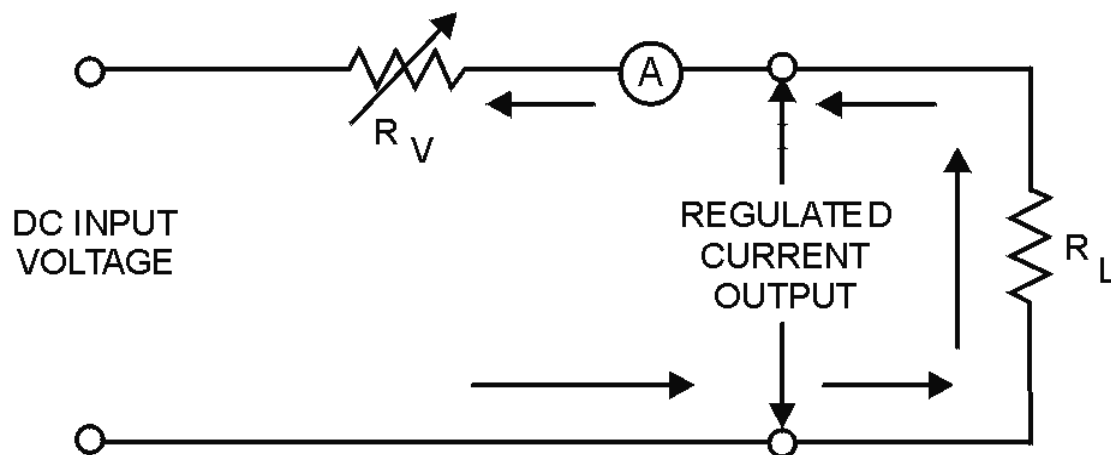

Figure 4-40.—Current regulator (simplified).
You should now know how voltage regulators work to provide constant output voltages. In some circuits it may be necessary to regulate the current output. The circuitry which provides a constant current output is called a constant current regulator or just CURRENT REGULATOR. The schematic shown in figure 4-40 is a simplified schematic for a current regulator. The variable resistor shown on the schematic is used to illustrate the concept of current regulation. You should know from your study of voltage regulators that a variable resistor does not respond quickly enough to compensate for the changes. Notice that an ammeter has been included in this circuit to indicate that the circuit shown is that of a current regulator. When the circuit functions properly, the current reading of the ammeter remains constant. In this case the variable resistor ( $R_V$ ) compensates for changes in the load or dc input voltage. Adequate current regulation results in the loss of voltage regulation. Studying the schematic shown, you should recall that any increase in load resistance causes a drop in current. To maintain a constant current flow, the resistance of  $R_V$  must be reduced whenever the load resistance increases. This causes the total resistance to remain constant. An increase in the input voltage must be compensated for by an increase in the resistance of  $R_V$ , thereby maintaining a constant current flow. The operation of a current regulator is similar to that of a voltage regulator. The basic difference is that one regulates current and the other regulates voltage.
- Q36. In figure 4-40, when there is an increase in the load resistance ( $R_L$ ), the resistance of  $R_V$  increases/decreases (which one) to compensate for the change.